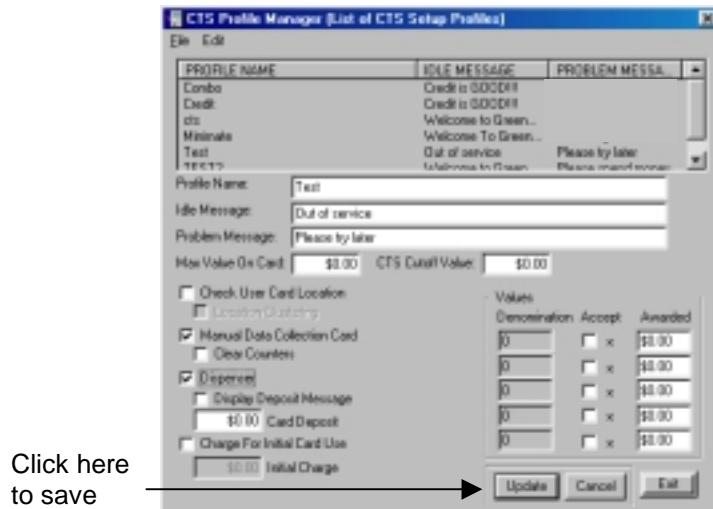

Figure 9.4 Saving Additions/Changes to Cash CTS Profile Manager
4. Verify that all data has been entered correctly; click the Update button to save the new profile (Figure 9.4).
5. Verify that the new information is correct, and click the Update button to save changes (see Figure 9.4).